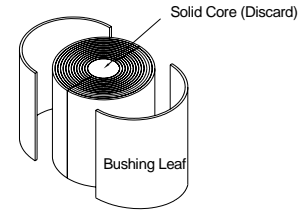

Figure 42 - IFC Clamp
5. Assemble the cable clamp, as shown in Figure 42.